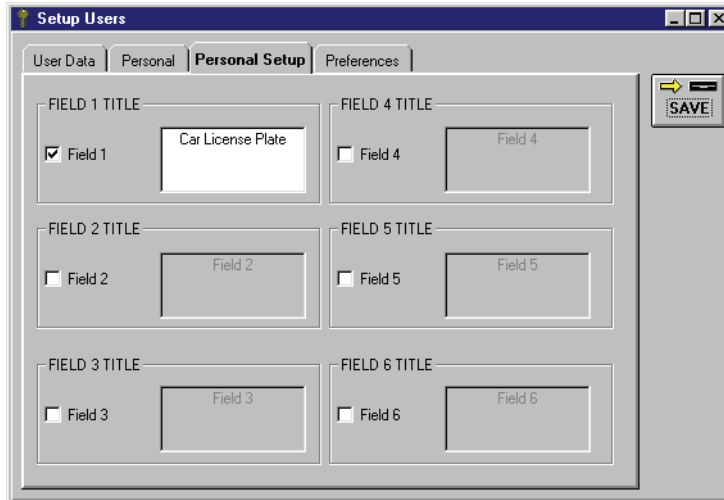

Figure 4-21: Personal Setup Tab - Field 1 Used
6. Once the Personal Setup tab has been saved, the Personal tab appears. The resulting window should look similar to Figure 4-21 on page 19 of this section.